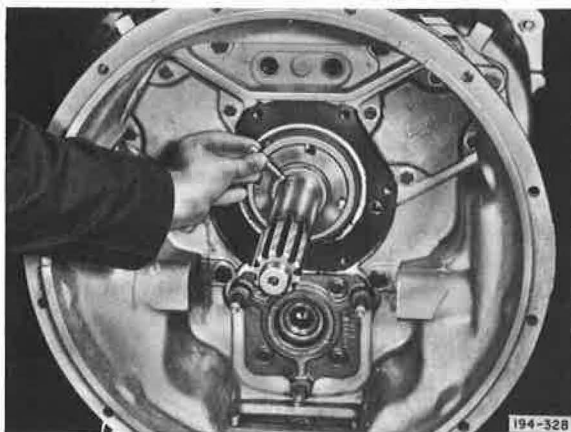

Figure 5-55. Installing Oil Pump Vane
22. Install oil pump vane in pinion. See Figure 5-55. Vane should be flush with the R.H. side of the pinion shaft and protruding slightly from the left side (as observed from the front of the transmission). This will insure alignment of vane with eccentric bore in cover during assembly. Apply sealer compound and install pinion cover gasket and cover. Install cover capscrews and tighten to recommended torque.